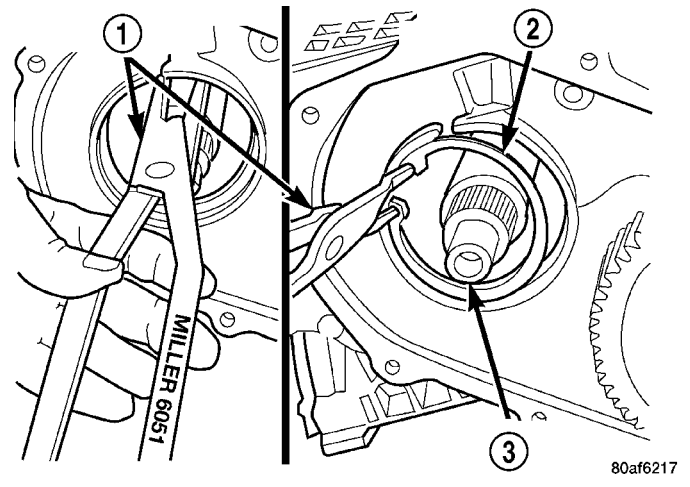

Fig. 64 Remove Transfer Shaft Bearing Snap Ring
(43) Using Tool 6051, remove transfer shaft bearing snap ring (Fig. 64).